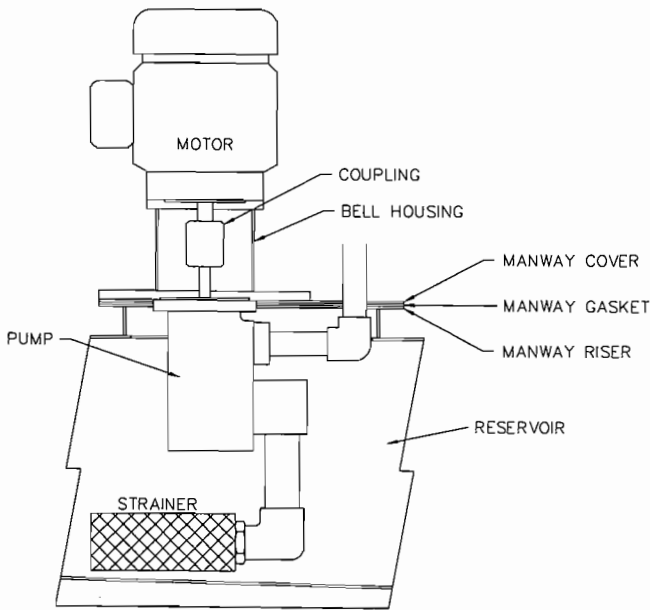

Figure 4. Vertical Pump Mounting Assembly.
Pumps that are mounted vertically in the tank should be mounted so the coupling is above the tank top (Figure 4). Mounting of the coupling below the tank top can result in aeration of the oil due to aerodynamic effects of the coupling.
- We recommend the pump installation be vertical on a bell housing with C face motor, per Figure 4. The bell housing ensures a permanent alignment. The vertical pump reduces skid size